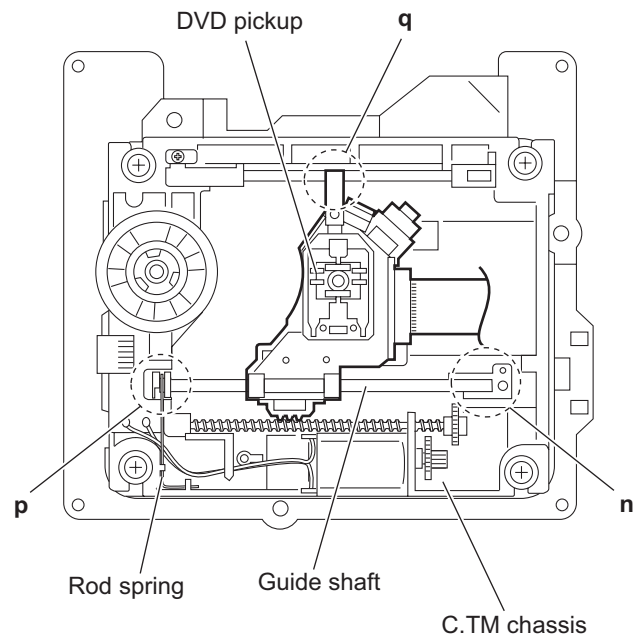

Fig.13
- (5) Remove the guide shaft from the sections (**n**, **p**) on the C.TM chassis. (See Fig.13.)
- (6) Remove the section **q** of the DVD pickup. (See Fig.13.)
- (2) Attach the section **q** of the DVD pickup to the C.TM chassis first and attach the guide shaft to the sections (**n**, **p**). (See Fig.13.)
- When attaching the guide shaft to the section **p**, attach it under the rod spring. (See Fig.13.)